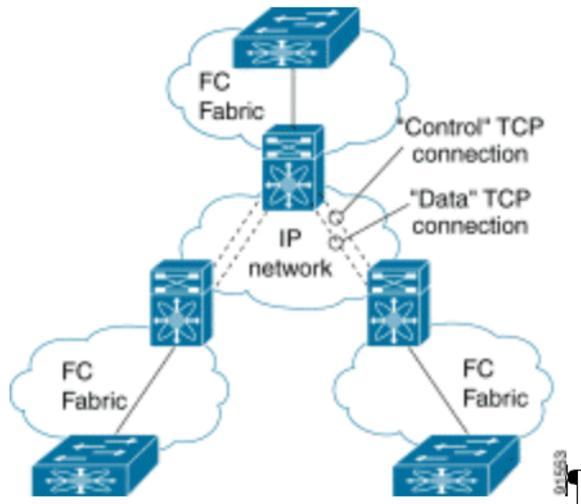

Figure 47: FCIP Scenarios
- FCIP-FCIP transports Fibre Channel frames transparently over an IP network between two Cisco MDS 9000 Family switches or other FCIP standards-compliant devices. Figure 47 depicts the FCIP scenarios in which the IPS module is used.